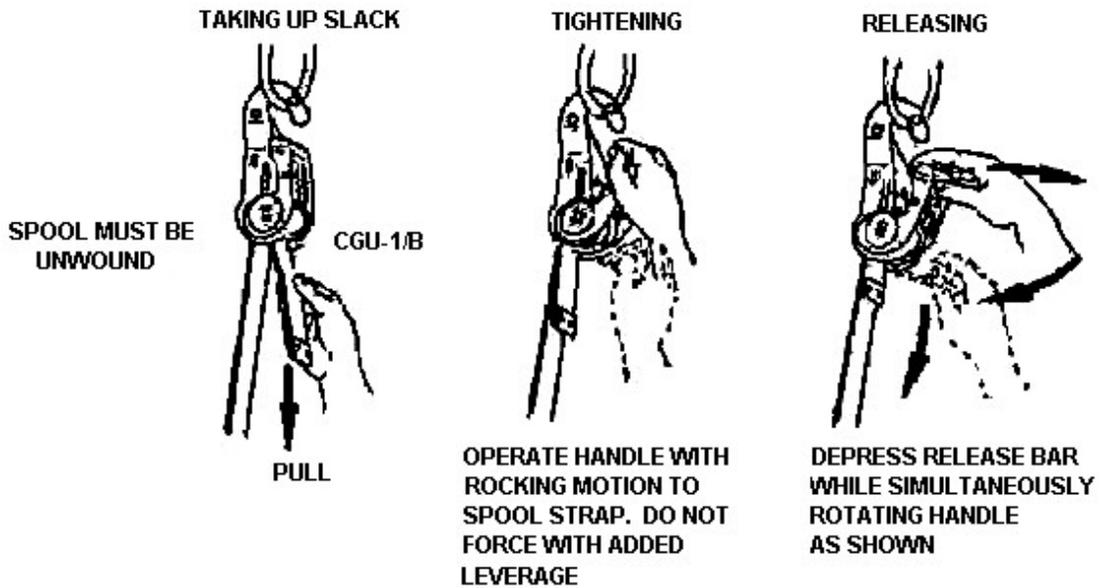

Figure 3-4
5. Install CGU-1/B tie-down devices (see Figure 3-4).